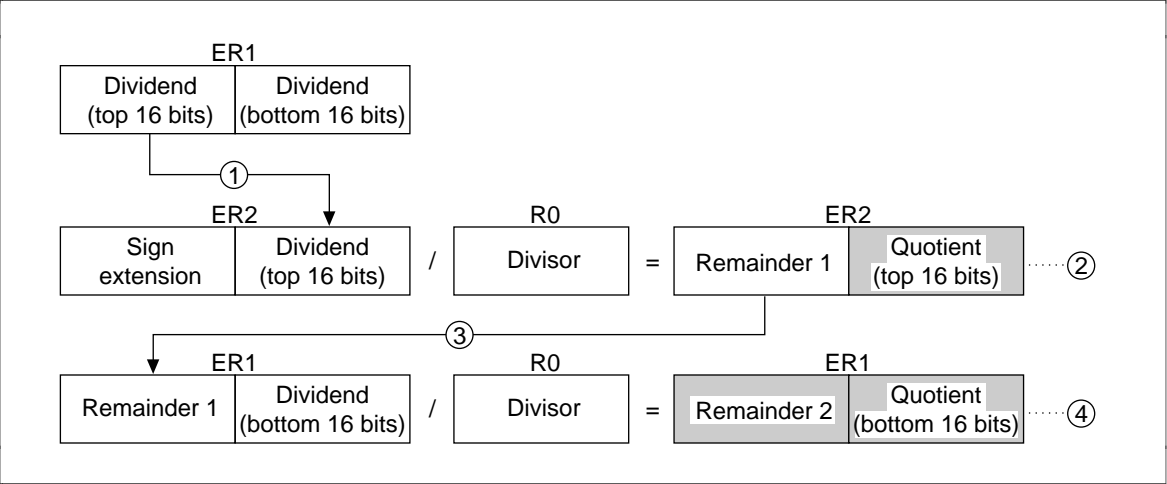

Figure 4.53 Overflow Processing
- The top 16 bits of the dividend are sent to R2 and sign-extended into 32 bits (figure 4.53 (1)).
- The top 16 bits of the dividend are divided to obtain the top 16 bits of the quotient (ii) (figure 4.53 (2)).
- The remainder of (ii) (remainder 1) is sent to R1 (figure 4.53 (3)).
- Division is performed on the bottom 16 bits of the dividend to find the bottom 16 bits of the quotient and the remainder (remainder 2) (figure 4.53 (4)).